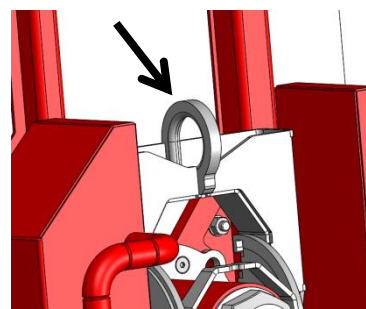

Figure: 10
- Hang the eye of the vacuum lifter on the crane hook (see figure 10).